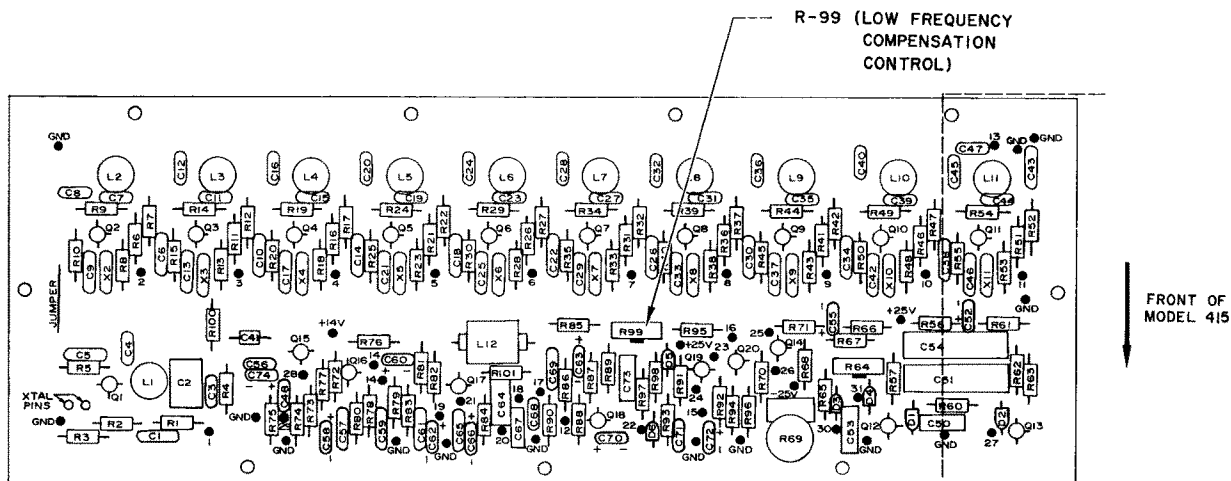

Figure 5.8 Location of Low Frequency Compensation Control (R-99)
30. BIAS SUPPLIES — 0-25 (2) output voltage adjustments.
**INTERNAL ADJUSTMENT**—R99, low frequency compensation (See Figure 5.8). Used if necessary to correct tilt errors caused by poor low frequency response of the oscilloscope.
- 5.4.1 If the operator is using an oscilloscope having poor low frequency response in conjunction with the Model 415, erroneous tilt will be introduced into the response patterns which is a function of the oscilloscope itself rather than being a function of the television receiver which is being aligned. The Model 415 has an internal adjustment which is used, when required, to compensate for poor low frequency response of the oscilloscope. The frequency compensation adjustment (R-99) is located on the printed circuit board inside the Model 415 and is accessible by opening the top cover of the unit. The location of this control is indicated in Figure 5.8. Normally, when no compensation is required this control is set to the extreme left position as viewed from the front of the unit. The Model 415 is shipped from the factory with the control in this position.